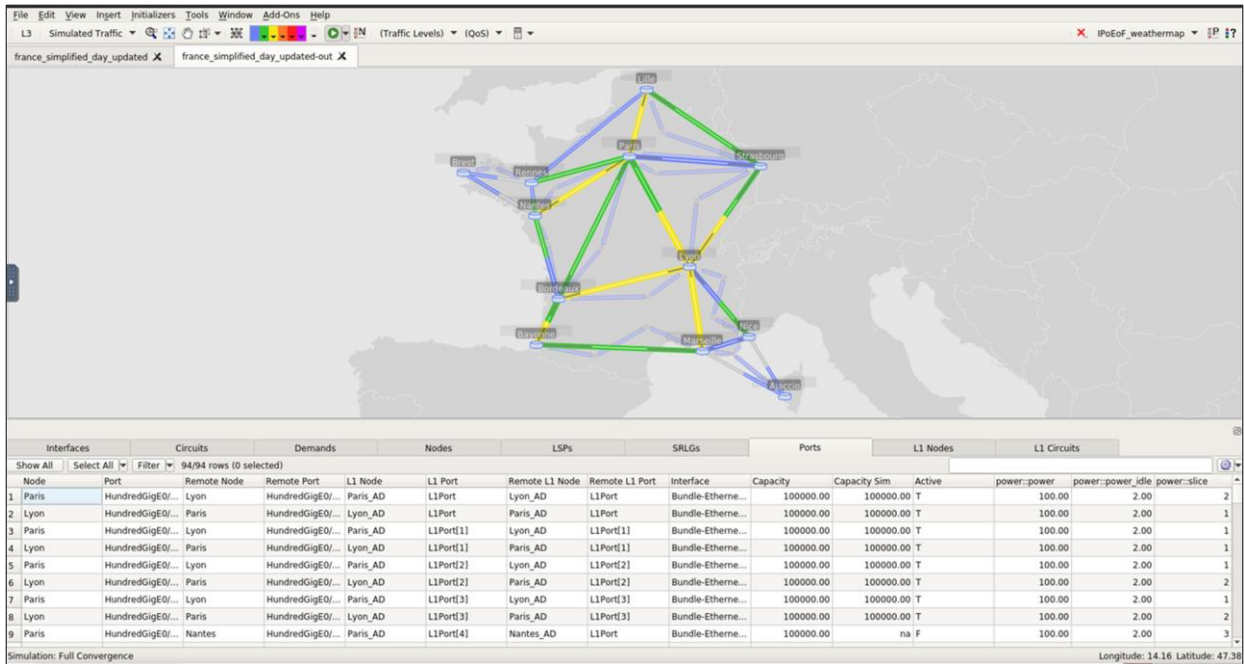

Figure 3.
- WAE Power Optimizer generates a new, proposed topology that meets your capacity and availability requirements. In the sample topology shown in Figure 3, redundant interfaces appear in gray. Deactivating these interfaces when traffic is light will reduce power consumption, keeping enough circuits active to make sure that down links won't affect performance.